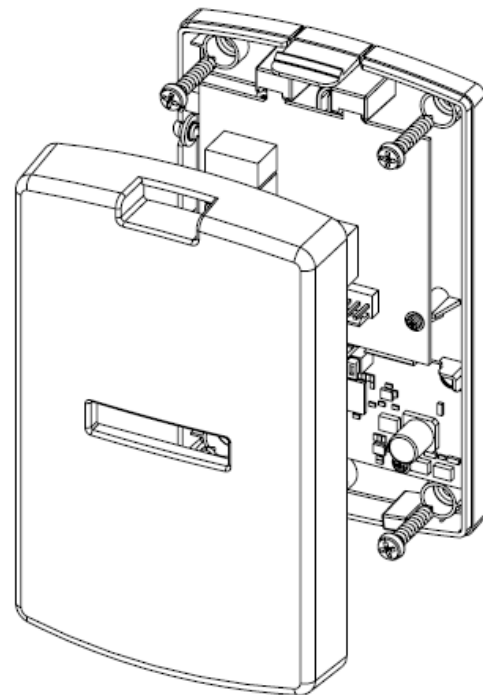

Figure 16
1. The mounting bracket is attached using five screws and the thermostat controller can then be snapped into place on the mounting bracket as shown in Figure 16.